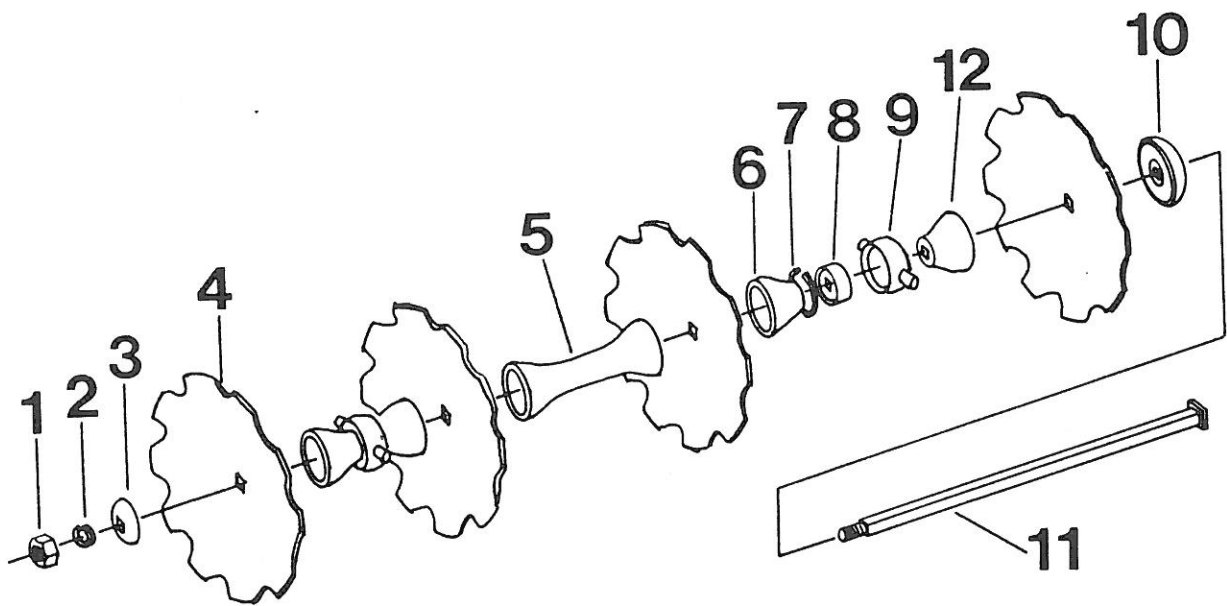

FIG. 3
1. Refer to Fig. 3 and assemble your gangs as shown. Use the largest diameter end spacer, Ref. 6, at the rear or convex side of the disc as shown and the smaller diameter spacer, Ref. 12, at the front or concave side of the disc.